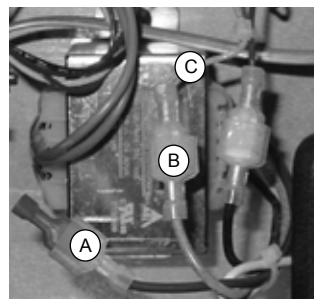

Figure 32: Burner Transformer Wires
- 208 VAC installation: connect wire B (blue) to wire C (blue). Figure 32, below, is configured for 208 VAC operation